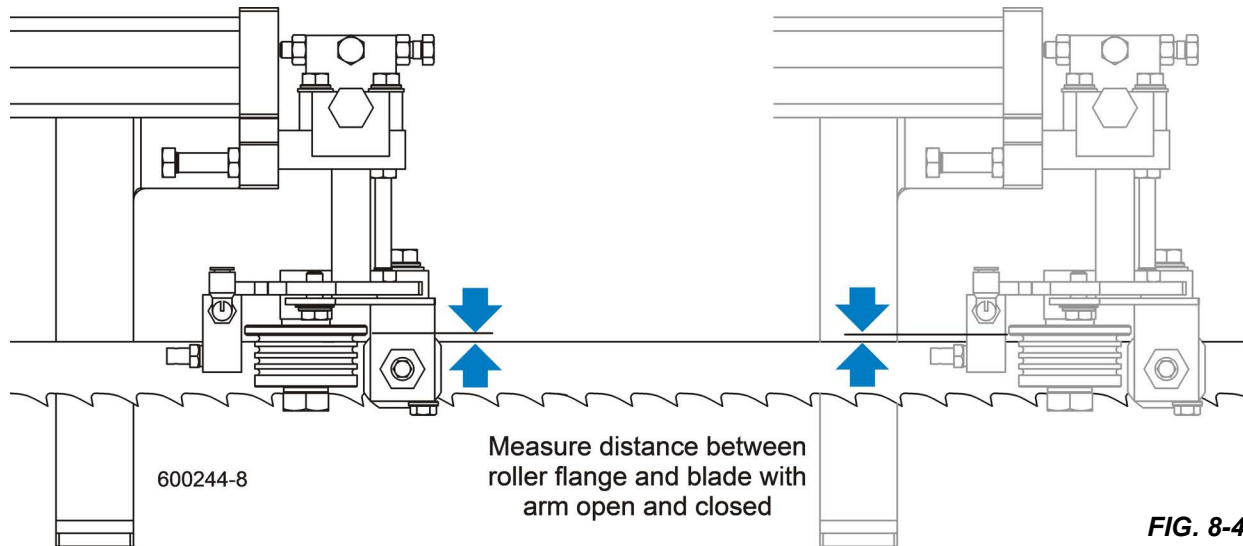

FIG. 8-4
9. With the arm adjusted 1/2" (12.7 mm) from fully closed, measure the distance between the blade guide roller flange and the back of the blade. See FIG. 8-4.